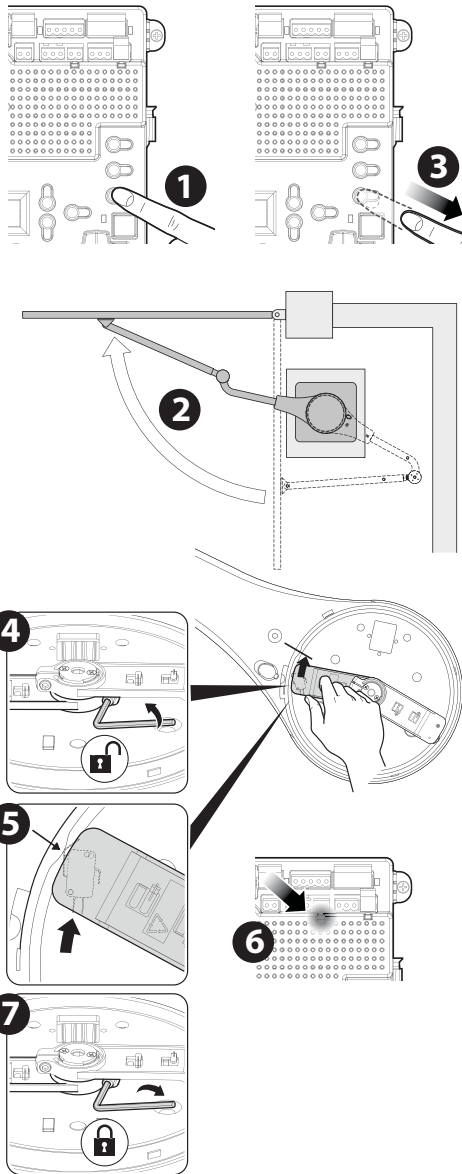

Figure 13
7. Using the CLOSE button on the front of the Control Board, hold the button down until the gate reaches the fully intended closed position See Figure 13 steps 1-2-3.
screw and move the arm for the close limit until the RED light illuminates on the front of the control board (see Figure 13 steps 4-5-6-7). When the CLOSED limit switch is set, tighten the set screw to hold it in place (see Figure 13 step 7).